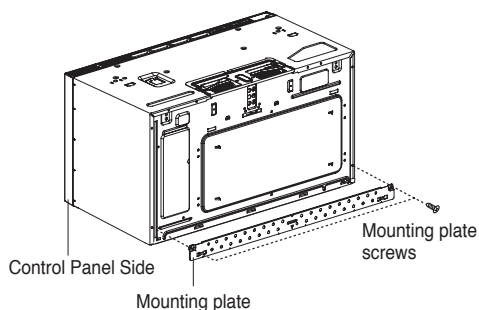

Figure 12
1. Remove mounting plate screws from the mounting plate as shown and discard. See Figure 12.